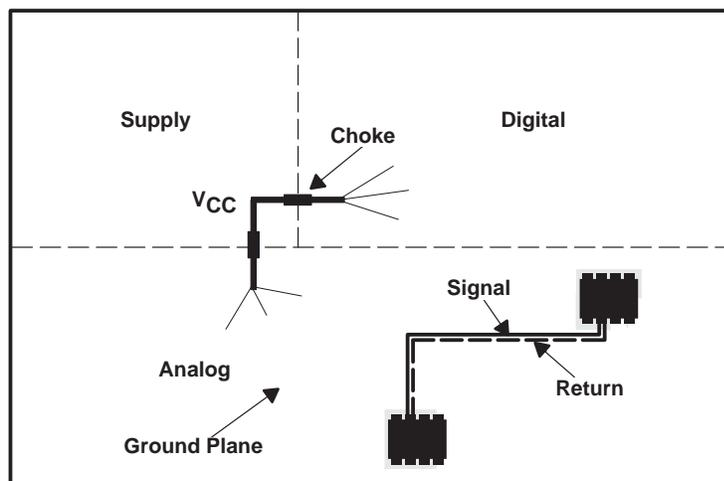

Figure 1. PCB With Proper Arrangement
- If several functional modules are combined on a single PCB, the PCB should be partitioned into separate functional units. This is particularly important if analog and digital signals are being processed on the same PCB. A common error is to incorrectly position the analog circuit on the PCB and to route digital signal lines through the analog area of the board. Each individual functional unit should have its own power supply, as shown in Figure 1. A star-shaped distribution of the supply voltage to each stage through a choke leads to better decoupling between these stages.